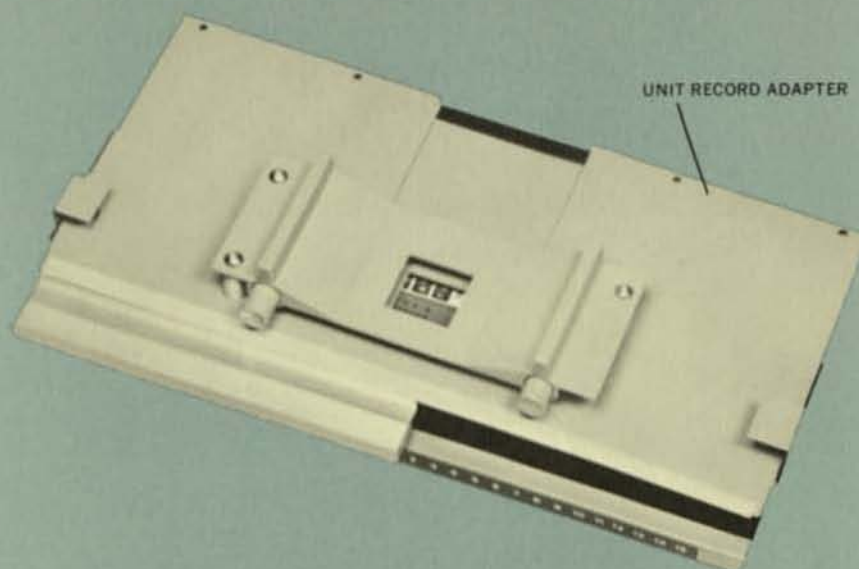

FIGURE 12
5. Install the UNIT RECORD ADAPTER, figure 12, in place of the film track assembly, as shown in figure 13. Push down on the buttons to lock the adapter in position.